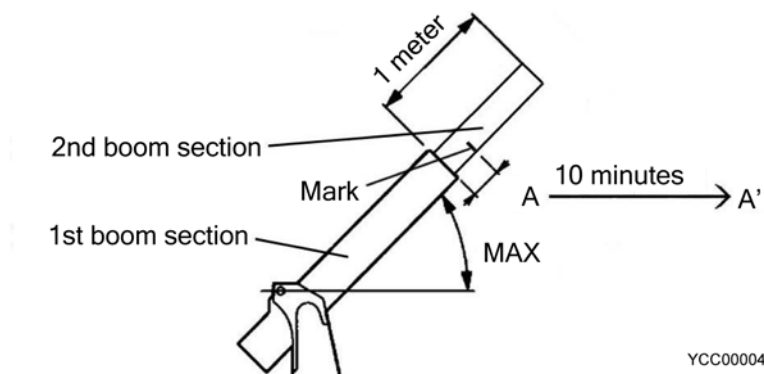

Fig. 3-18 Inspection procedures of natural descent
3. Apply the mark on the 2nd boom section, and then measure the **Dimension A** as shown in Fig. 3-18.